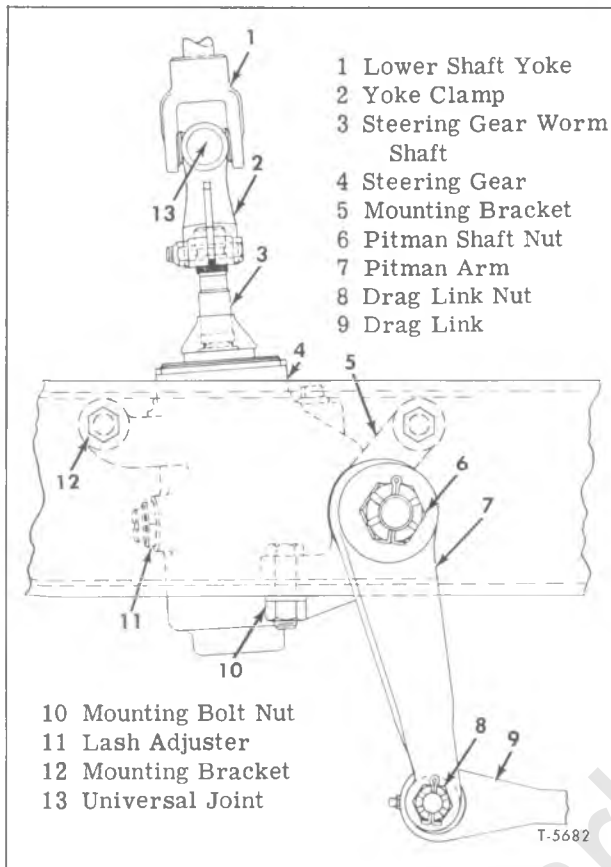

Figure 5—Steering Gear and Connections (Tilt Cab Models)
(Refer to Figures 5 and 6)
4. Remove Pitman arm nut (6) and lock washer; then using puller (J-3186) remove Pitman arm (7) (fig. 5).